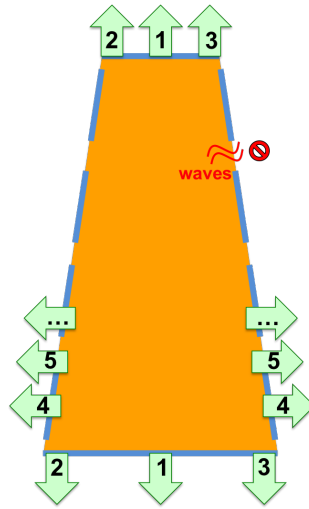

Figure 99: description of the stretching procedure.
Step 1: The stretching of the GEM foil is described in Fig. 99. It should be performed exactly in the same order to avoid creation of waves on the foils, especially between the different pieces of internal frames. Firstly, align the large and small bases of the GEM stack with their corresponding pull-outs on the drift board. Then stretch the opposite corners at the same time in order to remove the waves and to align all the lateral nuts with the lateral pull-outs, then continue with the lateral sides until all the screws are in place. Do not tighten the screws to the nominal value yet.